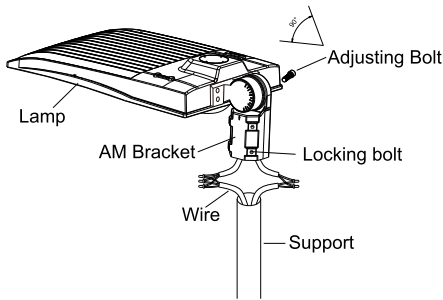

Figure 1
- 1.ADJUSTABLE FITTER MoUNTING (AM)
- Step 1:Loosen the four bolts on AM bracket, connect the wires correctly, and pull the wires into the poles.(Figure 1)
- Notice: Adjustable angle is 0-90°(Figure 1)